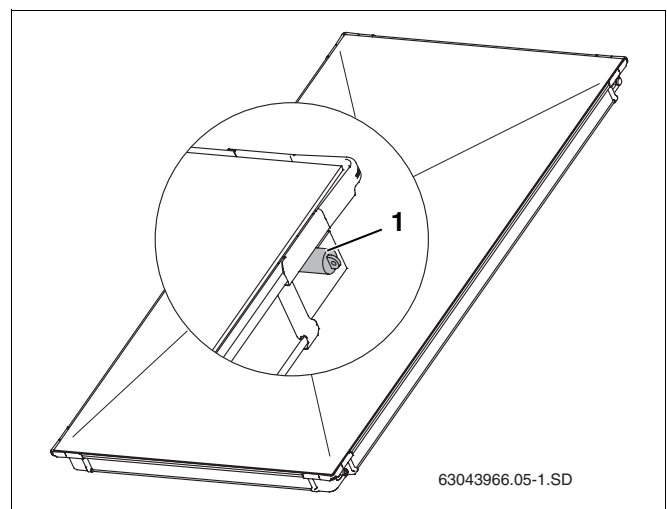

Fig. 5 Plastic caps on collector connections
- ▶ Do not remove the rubber caps (Fig. 5, **Item 1**) until immediately prior to installation.